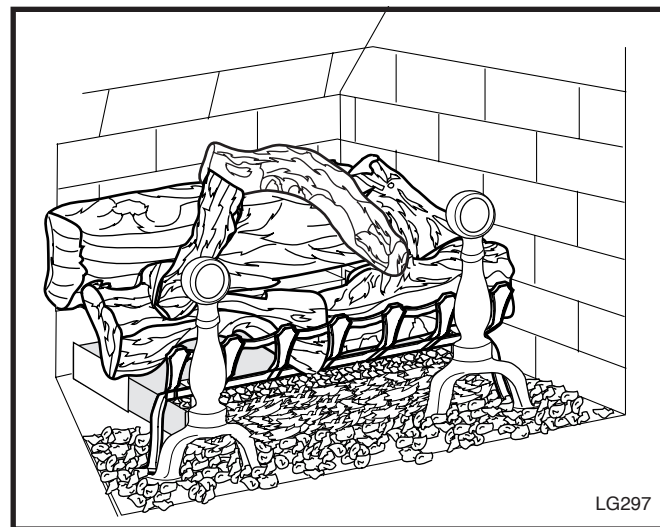

**Fig. 45** Place logs left front and right front.
7. Hold the log front left with the narrower end toward the right. For DVT44, set the log on the inside left side of the fettle and bring it forward until the right end of the log comes through the opening in the fettle. For the DVT38, the log is placed the same, however the end will not come through the fettle. When in place, the left end of the log is supported above the left sheet metal bracket. DVT38, the log will just touch the left side refractory. (Fig. 45)
8. Hold the log right front with the pointed end toward the left. Set the log on the inside right side of the fettle and bring forward. The pointed end of the log should come in contact with the front left log. When in place, the right end of the log is supported above the sheet metal bracket toward the right. (Fig. 45)